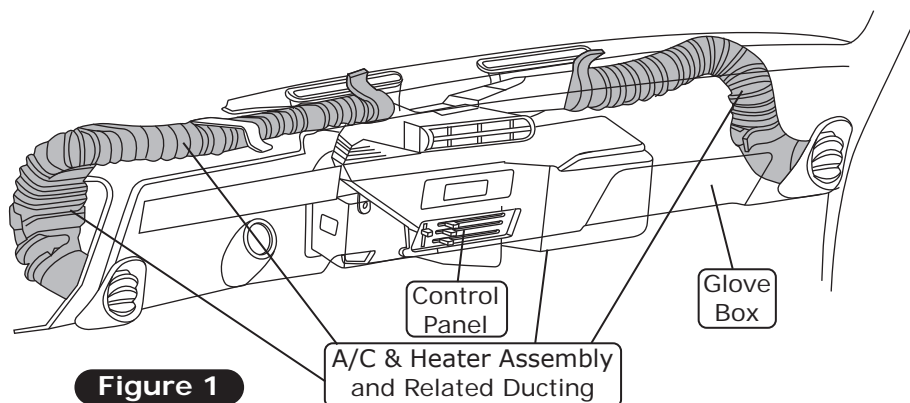

Figure 1
6. Remove the OEM condenser and drier (discard) (See Figure 1, below). **NOTE:** Removal of OEM condenser and drier is only needed if installing a condenser kit.
7. Remove the OEM A/C lines from the compressor to the evaporator (discard) (See Figure 1, below). **NOTE:** On 1967 models only, remove the A/C hoses and grommet beside the battery tray (retain screws) (See Figure 1a, below). Apply a bead of silicone around the opening in the inner fender, and install the inner fender cover using the (4) OEM screws (See Figure 1b, below).
8. Remove the OEM compressor and bracket (discard) (See Figure 1, below).
10. Remove the OEM heater hoses, A/C hoses, and hardlines (discard) (See Figure 1, below).
4. Remove all hoses and ducting from the OEM louvers (See Figure 1, below).